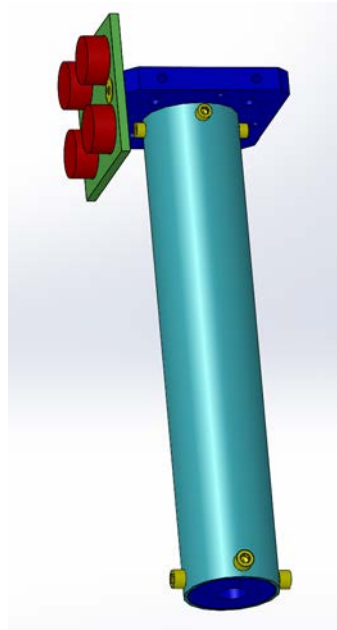

Figure 18: Lo Tube magnet placement
3. Attach D1000930 - SLC MAGNET HOLDER STEEL PLATE to D1002618 - SLC TUBE LOWER CONNECTOR PLATE, see Figure 18.